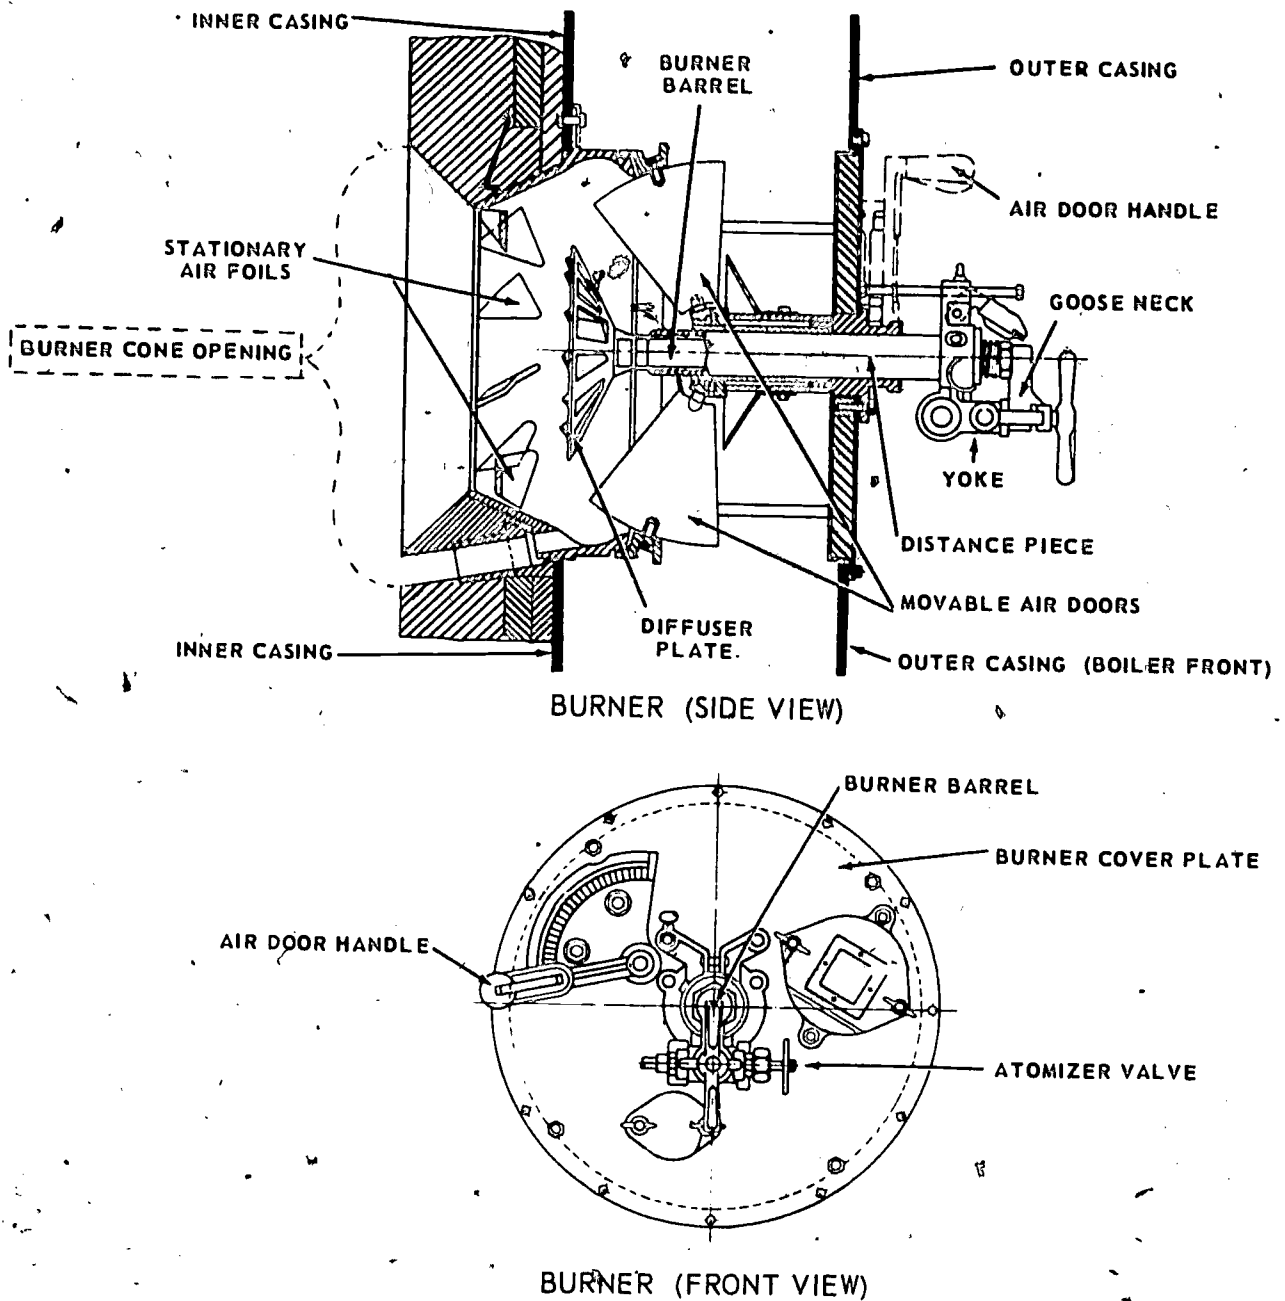

Figure 6-15.—Cross-sectional view of Babcock and Wilcox Carolina-type fuel oil burner with straight-through-flow atomizer.
Air enters the furnace through the air register where it mixes with the fine oil spray which entered through the atomizer. Figure 6-15 shows the arrangement of air register parts in a burner assembly. The air register consists of three main parts: (1) air doors, (2) a diffuser, and (3) air foils. The air doors are used to open or close the register as necessary. They are usually kept either fully opened or fully closed. When the air doors are open, air rushes in and is given a whirling motion by the diffuser plate. The diffuser plate causes the air to mix evenly with the atomized oil in such a way that the flame will not blow away from the atomizer. The air foils guide the major quantity of air so that it mixes with the larger particles of oil spray beyond the diffuser.